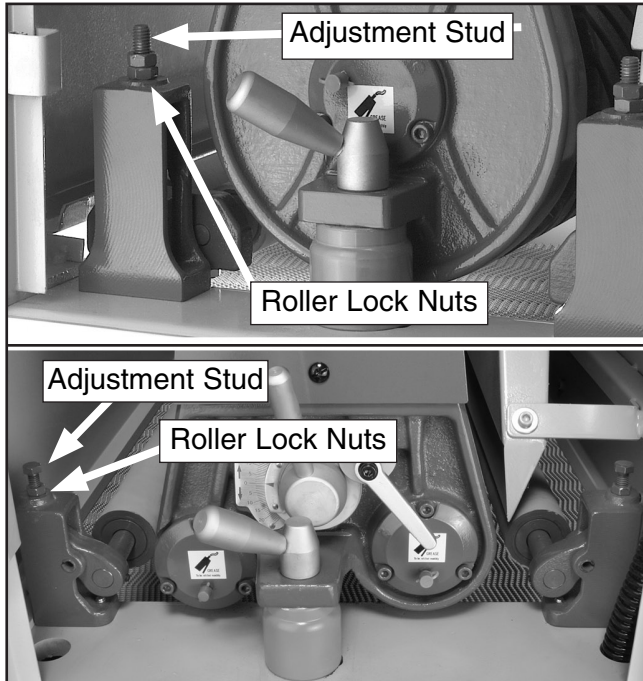

Figure 33. Pressure roller adjustment locations for platen and drum type sanders.
- Loosen the roller lock nuts (**Figure 33**) on the infeed pressure roller. Turn the adjustment studs (**Figure 33**) to lower the pressure roller until it just touches the board.